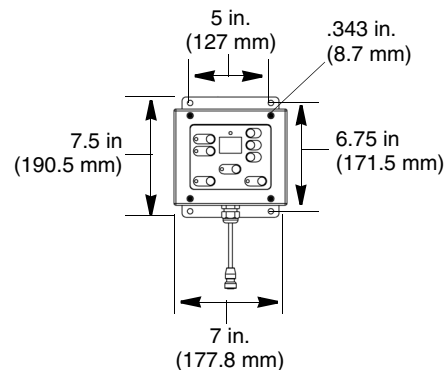

FIG. 7
3. Using the equipment as a template, mark the mounting holes on the wall at a convenient height for the operator and so equipment is easily accessible for maintenance. FIG. 7.